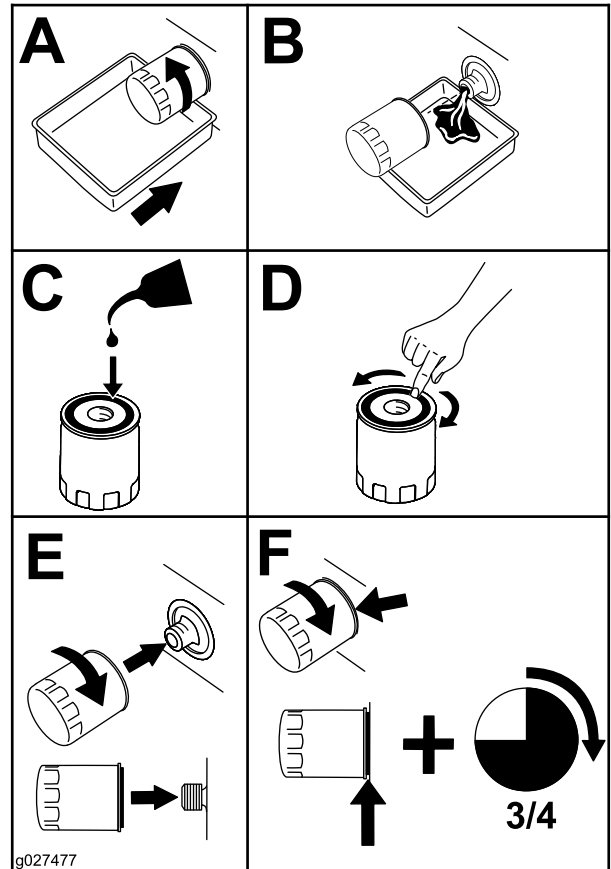

Figure 59
- Change the engine-oil filter (Figure 59).